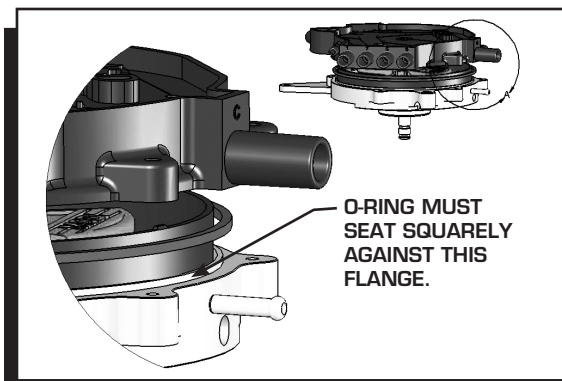

Figure 12 Installing the O-Ring and Cap.
20. Install the square O-ring seal on the billet housing. Use care not to twist or kink the seal (Figure 12).